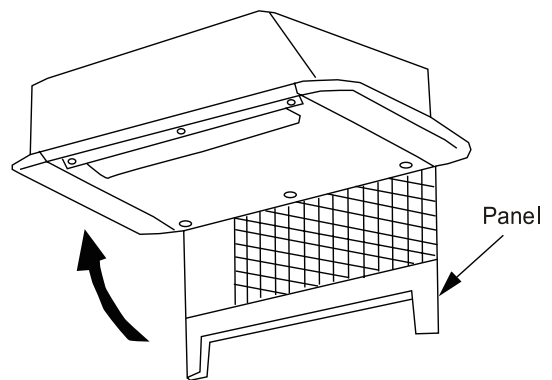

Fig.5
3) As shown in Fig.5, install the panel on the panel ,and then turn it for fastening.